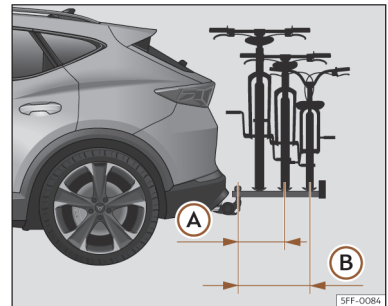

Fig. 199 Schematic representation of the maximum load overhang of a bicycle rack for two or three bicycles.
- (A)** With up to 55 kg load capacity: 500 mm (approx. 19.7 in)
- (B)** With 75 kg load capacity: 700 mm (approx. 27.6 in)
The maximum overhang shall not exceed 500 mm from the centre of the ball head to the centre of the rail of the last support >>> **Fig. 199 (A)** for two-bicycle racks. In the case of three-bicycle racks, the overhang must not exceed 700 mm >>> **Fig. 199 (B)**.